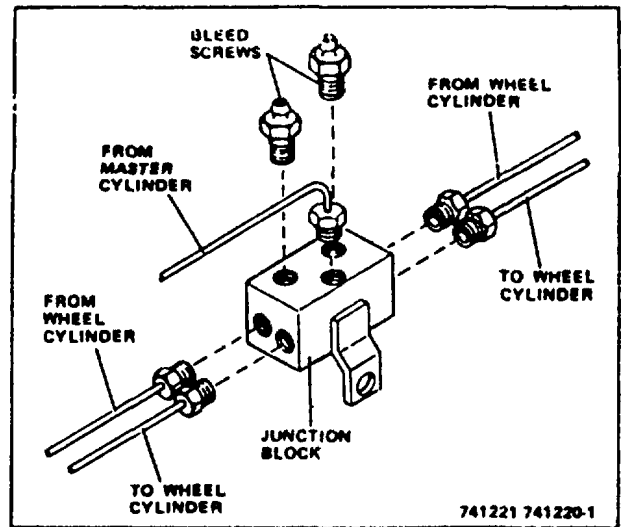

Figure 2-3. Central Bleeding System
**NOTE: Normally, the bleed screw is located at the back of each drive axle flange. However, some Models of lift trucks are equipped with a central bleeding system. This system utilizes a junction block located near the top of the drive axle housing. The junction block is equipped with two bleed screws, one for each wheel cylinder. For lift trucks equipped with a central bleeding system, see Figure 2-3.**